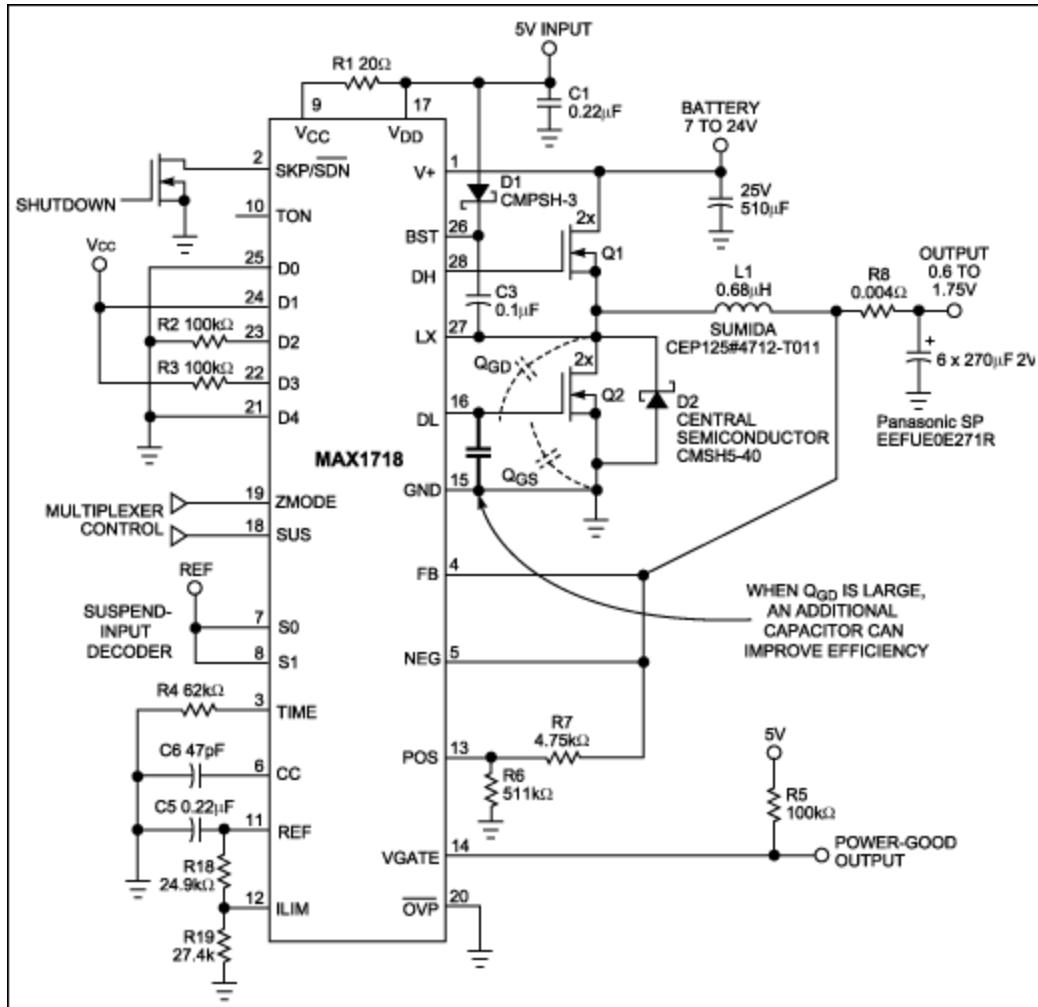

Figure 1. This IC (MAX1718) forms a CPU-core power supply.
**Figure 1** illustrates a stepdown power supply in which a stepdown controller (MAX1718) provides the CPU-core supply. Recent CPU cores require a very low supply rail (1V to 2V) with more than 20A of current. The input voltage range, on the other hand, is high (7V to 20V). These circumstances force a very low duty cycle for the high-side MOSFET (Q1).